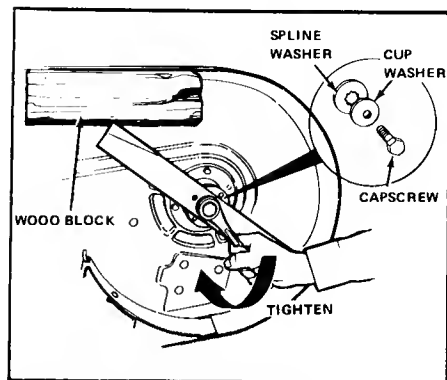

Figure 22. Installing Blade
7. Reinstall each blade with the tabs pointing up toward deck and secure with a capscrew, cup washer, and spline washer. Be sure all splines are aligned and washer is flush against blade. Use a wooden block to prevent blade rotation and torque capscrew to 50 ft. lbs. (68 N.m) (figure 22).